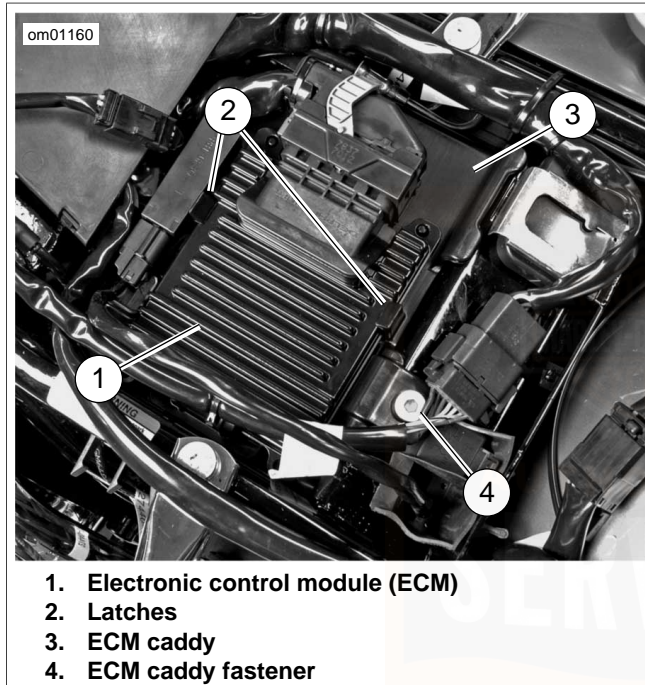

Figure 72. ECM Caddy: Touring Models
2. See Figure 72. Press latches (2) away from the ECM (1) and detach from ECM caddy (3).
3. Remove fastener (4) from rear of ECM caddy.
7. See Figure 72. Install ECM caddy over battery compartment. Tighten fastener to 15-20 ft-lbs (20-27 Nm).